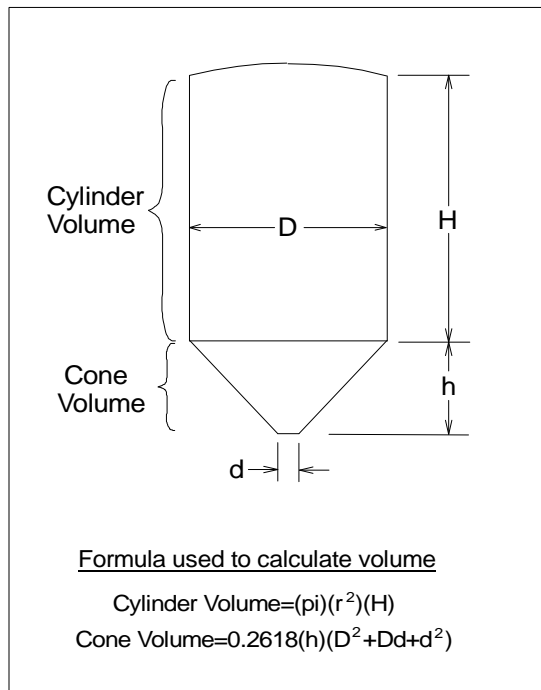

Figure 1
- **Vessel Dimensions;** to allow calculation of the internal volume. See fig 1 for details regarding the math. Dimensions will be site specific and must be provided by the end user or their designate. It is best to get silo dimensions directly from silo manufacturer's drawing. It cannot be overstressed, accurate volume calculations require accurate dimensional data.